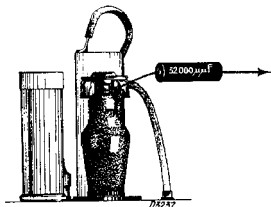

Fig. 2.
4. Apply modulated 128 K.C. signal across 32,000 $\mu\mu\text{F}$ to top of L1 (see Fig. 2).